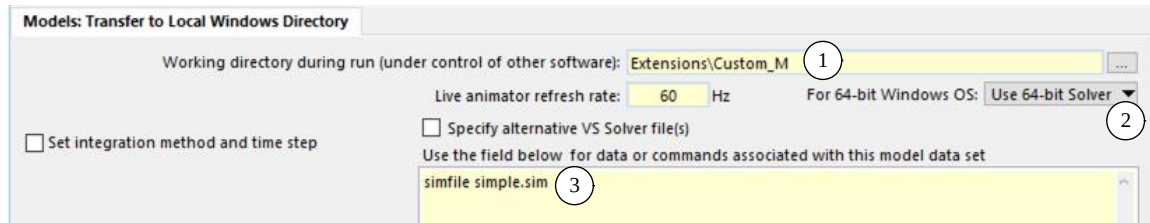
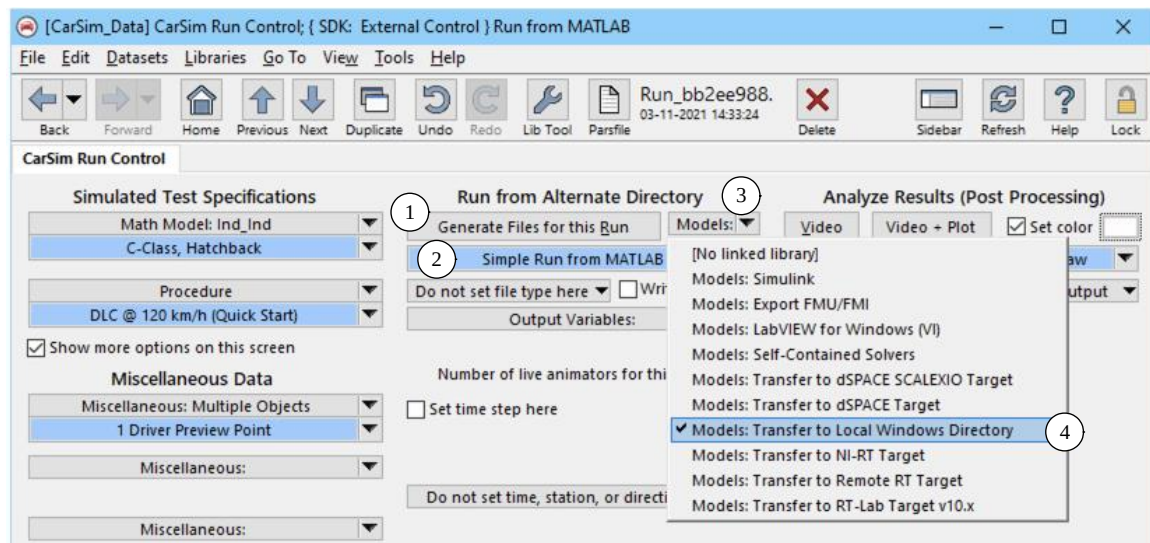

Figure 9. Specify the folder containing MATLAB files.
Figure 10. Link to the library Models: Transfer to Local Windows Directory.
When running from MATLAB, the working directory will be the folder containing the MATLAB M file. Therefore, the Simfile should be written to the folder containing the M file. This is specified using a dataset from the library **Models: Transfer to Local Windows Directory** (Figure 9). The linked dataset should identify the folder containing the MATLAB file ①. In the same dataset, use the drop-down control for choosing a 32/64 bit solver ② to match your version of MATLAB. The examples shipped in VehicleSim products also specify a custom Simfile name, using the keyword `simfile` ③. For the examples in which no extensions are made to the VS Math Model, the Simfile is named `simple.sim`.
To use these settings, a link is made from the **Run Control** screen (Figure 10) to the dataset in the library **Models: Transfer to Local Windows Directory** (4), selected with the **Models** drop-down control (3). The linked dataset (2) is the one shown in Figure 9. Generate the files for the MATLAB program by clicking the button **Generate Files for this Run** (1).